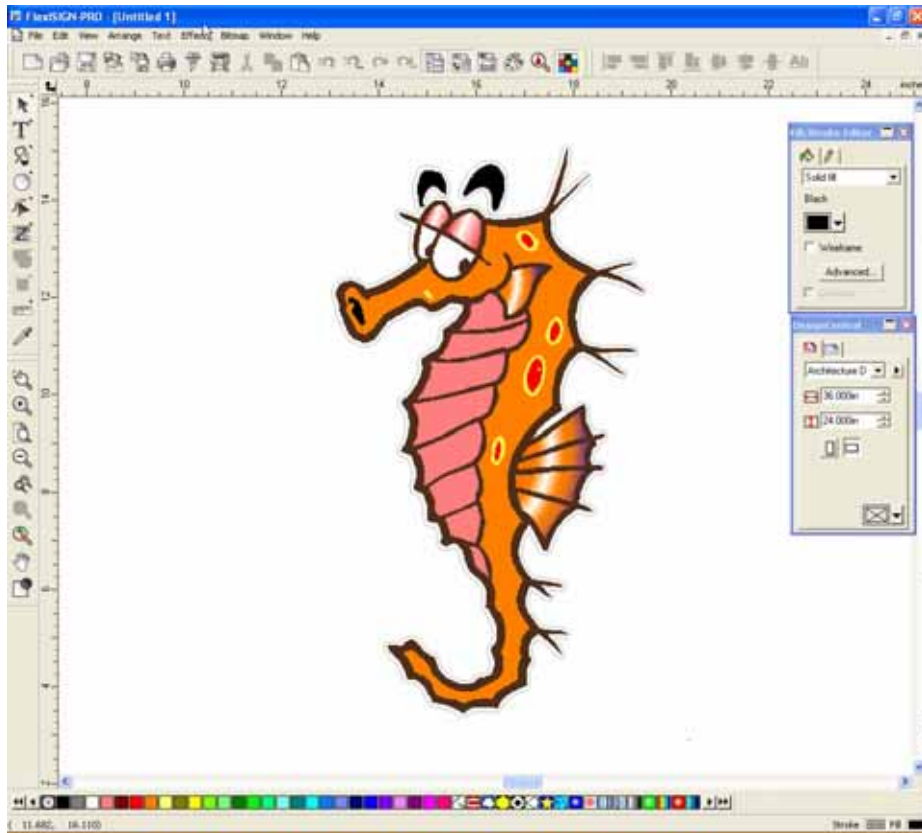

Figure 2
2. Apply Contour Cut: Effects > Contour Cut (Fig.2)